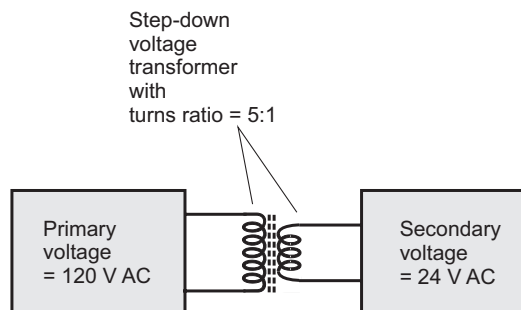
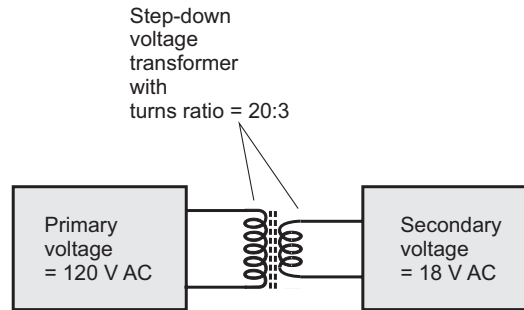
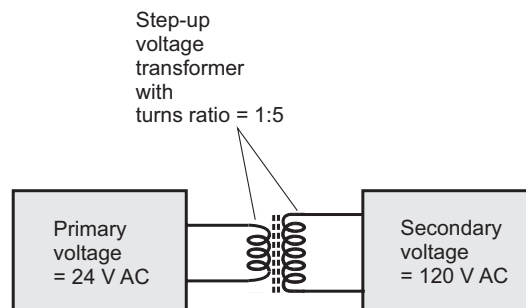
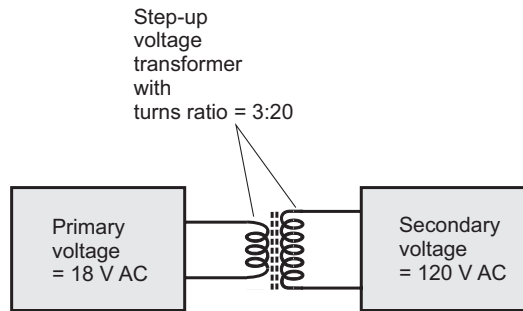

FIGURE 5-8 Step-down transformer for 120 V AC to 24 V AC.
FIGURE 5-9 Step-down transformer for 120 V AC to 18 V AC.
FIGURE 5-11 Step-up transformer for 24 V AC to 120 V AC.
FIGURE 5-12 Step-up transformer for 18 V AC to 120 V AC.
- “24 V” setting (Fig. 5-8 in theory) yields actual output of 27.9 V AC
- “18 V” setting (Fig. 5-9 in theory) yields actual output of 20.4 V AC
- First unit set at "24 V" (Fig. 5-8) and second unit set at "24 V" (Fig. 5-11)
- First unit set at "24 V" (Fig. 5-8) and second unit set at "18 V" (Fig. 5-12)
- First unit set at "18V" (Fig. 5-9) and second unit set at "24 V" (Fig. 5-11)
- First unit set at “18 V” (Fig. 5-9) and second unit set at “18 V” (Fig. 5-12)